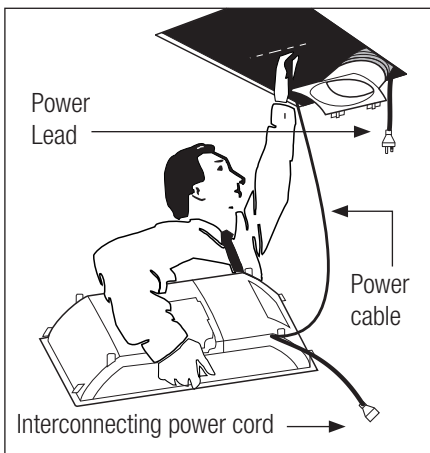

Fig. 8
- 1 Feed ducting and blower through hole in ceiling. Directing it towards the installation position of the outlet grille. Position the exhaust fan so that the short length of duct is stretched out and transition along with power supply lead is sitting next to the hole as per Fig. 8.